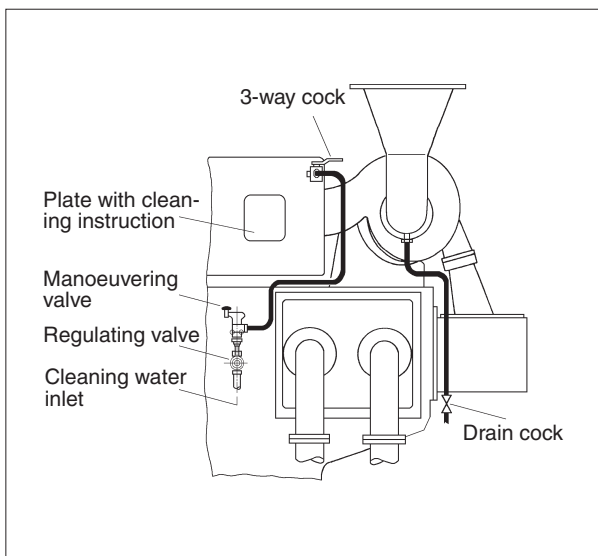

Fig 1. Arrangement for water washing.
- 2) Open the drain cock at the turbocharger outlet and check for free passage, *see fig 1*.
- 5) Activate the manoeuvring valve, *see fig 1*.